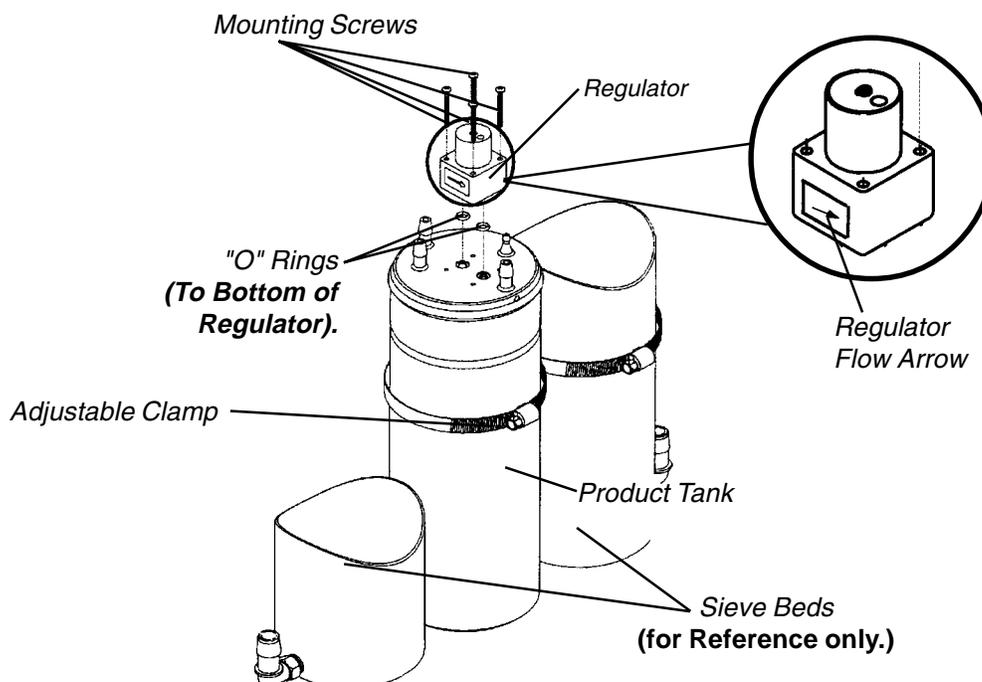

FIGURE 1 - REPLACING REGULATOR
5. Move product tank back to access regulator (Refer to PROCEDURE 6 - REPLACING/ADJUSTING REGULATOR - Replacing Regulator [FIGURE 1]).